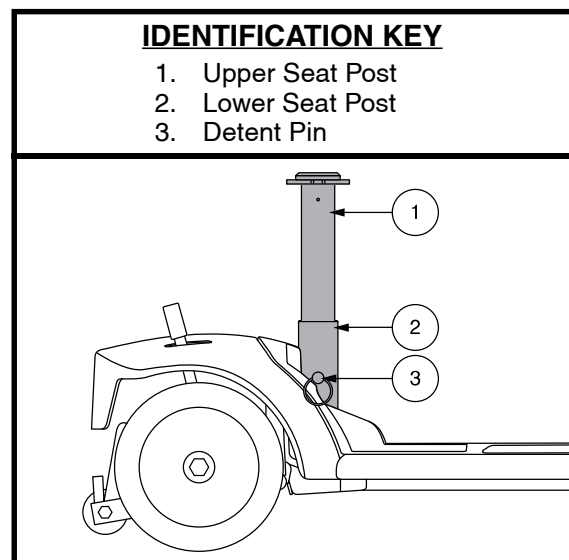

Figure 26. Seat Height Adjustment
The seat can be repositioned to different heights. See figure 26.
2. Remove the upper seat post from the Travel Scooter by removing the detent pin from the lower portion of the seat post, then lifting the post straight up and off the Travel Scooter. See figure 26.